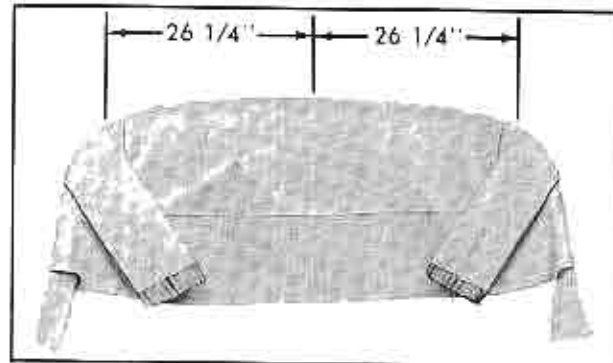

Fig. 3-105 Tacking Rear Quarter Stay Pads to Trim Stick
1. As a bench operation, tack the rear quarter stay pads to the large trim stick, see Fig. 3-105. Note that inner edges of pad are 26-1/4 inches from the center of the trim stick. The lower edges of the pads are set flush with the lower edge of the trim stick for positive location.